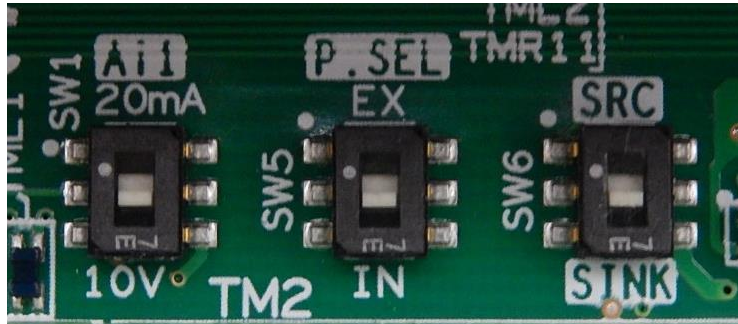

Figure 18: Proper Switch Settings
6.5.1 **Verify/Set** switch settings. See *Figure 18* below for reference.